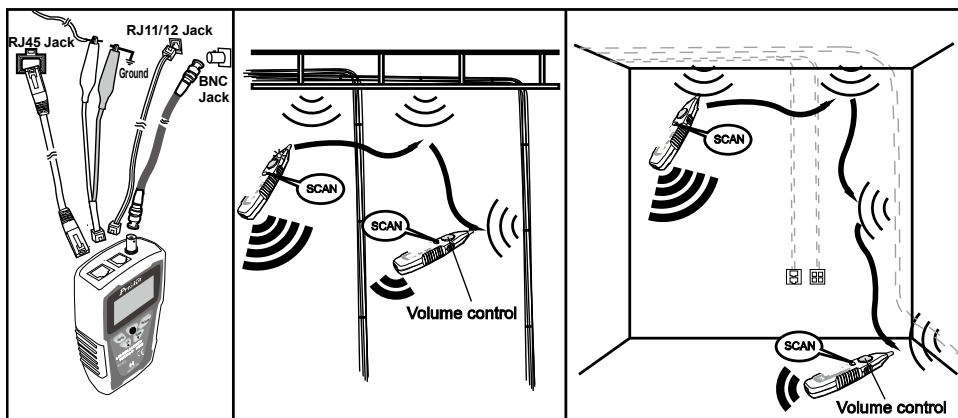

Figure 8 Locating cables
To locate cables, do the following steps (Figure 8) :
1. Please connect tested cable with MT-7071 properly, as figure 8. If you want to test single conductor / twin conductor cable , please select 「Tel」 cable type then plug the alligator clip patch cord into RJ11 jack.
4. As figure 8 shows, slide the "switch" of receiver to OFF or LED position, then push  on receiver to operate cable tracing function. The tracing sound will be output from speaker. When put on earphone, there will be no sound from speaker, but from the earphone.